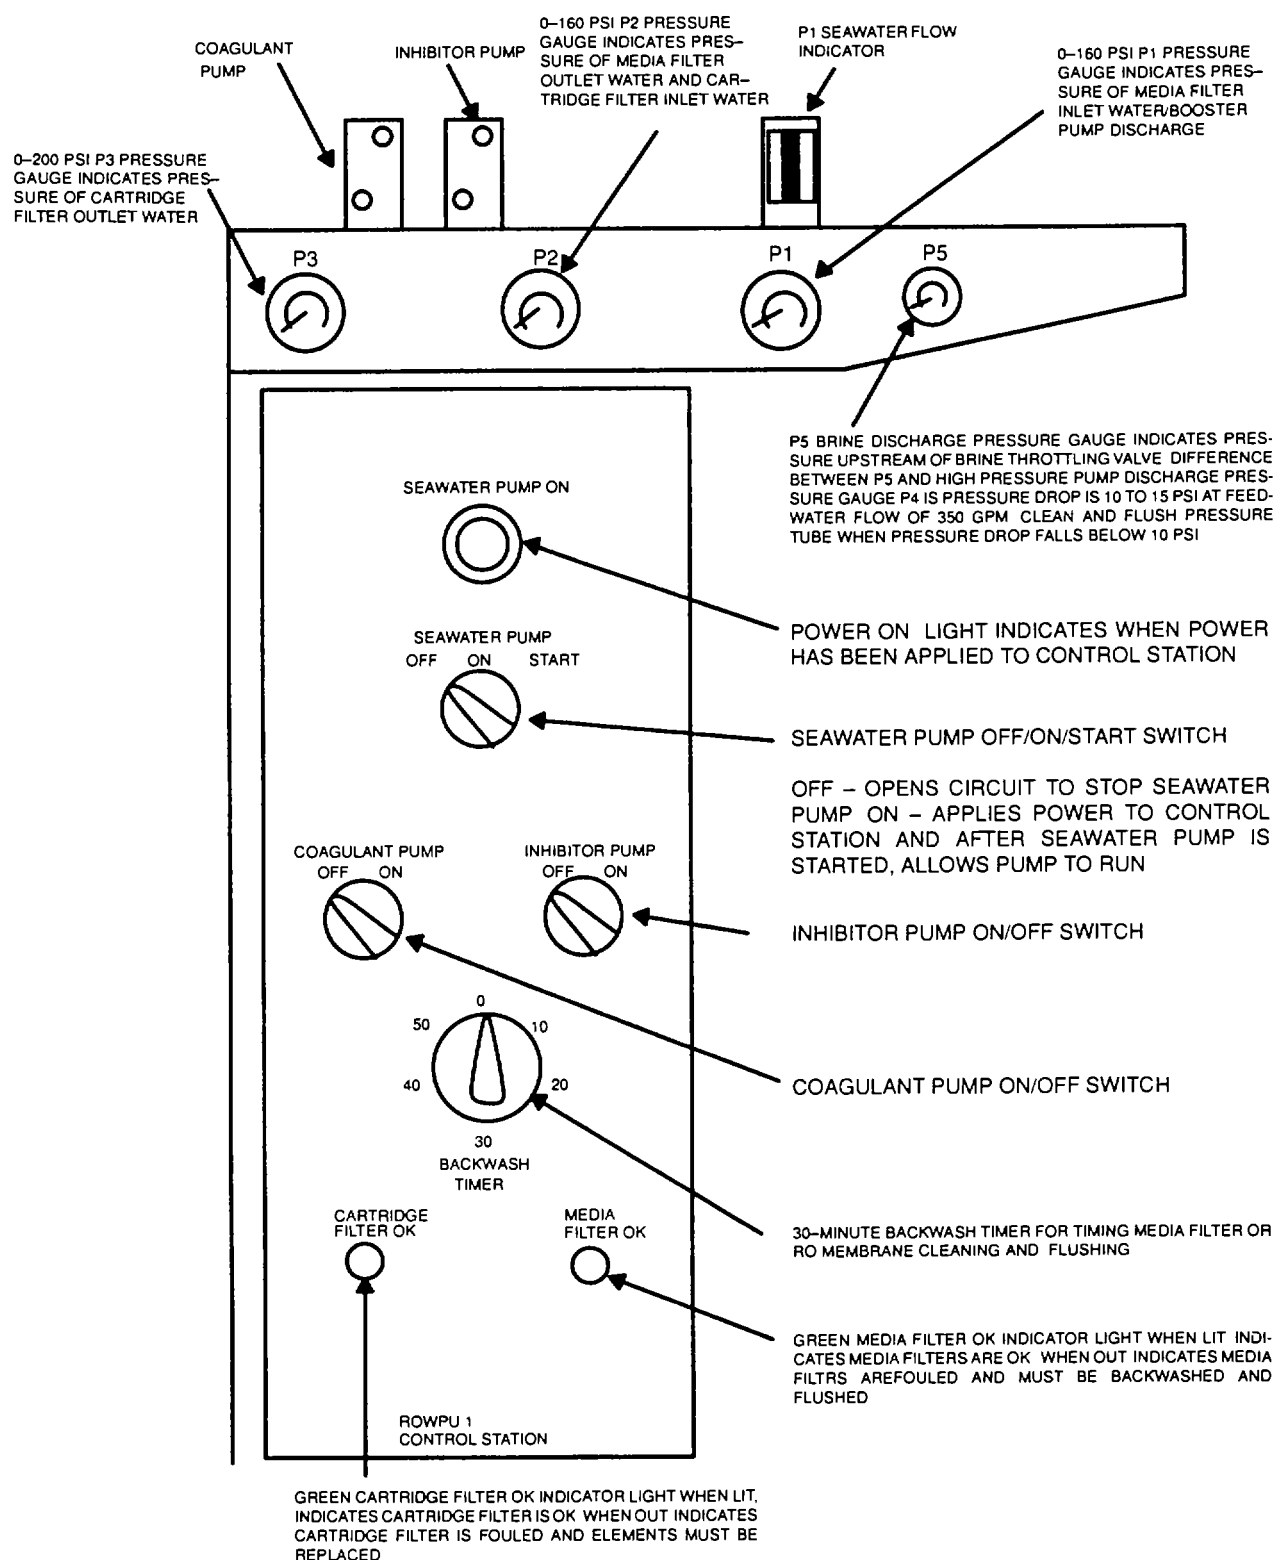

Figure 3-1. ROWPU Control Station (ROWPU 1 Station Shown)
- c. Start seawater pump by turning OFF/ON/START switch (Figure 3-1) to START. When pump starts, release switch. Switch will return to ON position.
- d. Check appearance of feedwater in seawater pump flow rate indicator F1 (Figure 3-1).
- (1) If feedwater is not too dirty (cloudy), go to step e.
- (2) If water is very dirty, stop pumps. Make sure seawater strainer is clean and seawater filter has been drained.
- (3) Repeat steps c and d.
- e. Start coagulant pump by turning coagulant pump ON/OFF switch (Figure 3-1) to ON.
- (3) Make sure red indicator light does not come on. If red indicator light comes on, replace coagulant drum (paragraph 4-7.1.3).
- f. Start inhibitor pump by turning inhibitor pump ON/OFF switch (Figure 3-1) to ON.
- h. Check MEDIA FILTER OK indicator light (Figure 3-1).
- (1) If light is on, go to step i.
- (2) If light is out, check pressure readings on seawater pump discharge pressure gauge P1 and media filters outlet pressure gauge P2.
- (3) If pressure difference exceeds 35 psi, backwash and flush media filters (paragraph 4-7.2).
- (4) If difference is less than 35 psi, check bulb. Replace if burned out.
- i. Check CARTRIDGE FILTER OK indicator light (Figure 3-1).
- (1) If light is on, go to step j.
- (2) If light is out, check pressure difference between media filters outlet pressure gauge P2 and cartridge filter assembly outlet pressure gauge P3.
- (3) If pressure difference exceeds 12 psi, change cartridge cage assembly (paragraph 4-7.1.1).
- j. Check flow rate on seawater pump flow rate indicator F1 (Figure 3-1).
- (1) If flow rate is near 350 gpm, go to step k.
- (2) If flow rate is very much less than 350 gpm, make sure seawater valves are fully open or completely closed as specified in seawater system operating procedures (TM 55-1930-209-14 & P-2).
- (3) Make sure seawater strainer and seawater filter are not clogged.
- (4) Repeat step j.